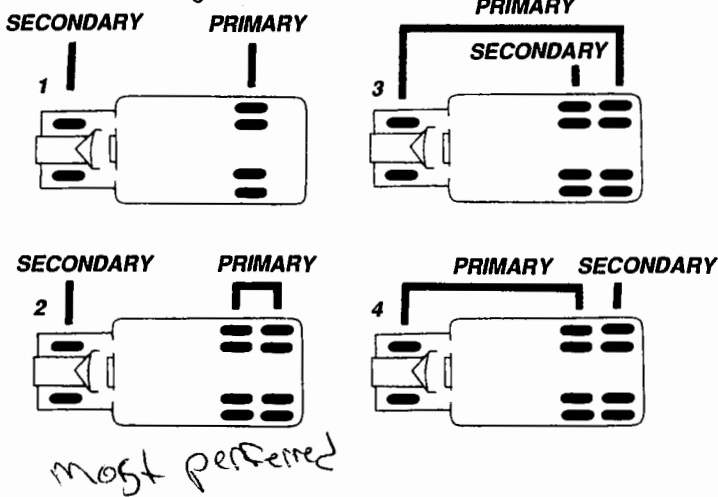

FIGURE 12
*SEE FIGURE 12 ON FOLLOWING PAGE*